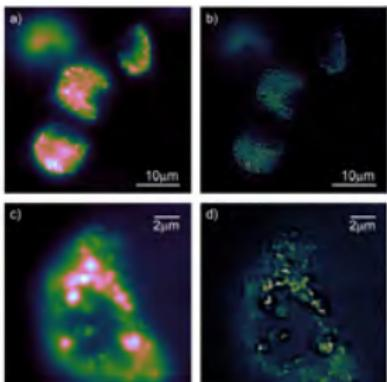

Figure 3. Fluorescence imaging of 90 nm nanodiamonds in monocyte-derived macrophages. The nanodiamonds
Fig. 4. (a)-(c) Optically sectioned and (d)-(f) conventional images obtained from corresponding images shown in Figs. 3(d)-3(f) by post-processing with Eqs. (1) and (2), respectively. These are at different axial positions of (a,d) $\Delta z = 0 \mu\text{m}$, (b,e) $\Delta z = 73.9 \mu\text{m}$, (c,f) $\Delta z = 85.3 \mu\text{m}$, where the axial position of $\Delta z = 0$ is at the plateau ground on the coin and a positive increase in Δz corresponds to going up-to the hill of the numerical character of “0”. Scale bar 50 μm .